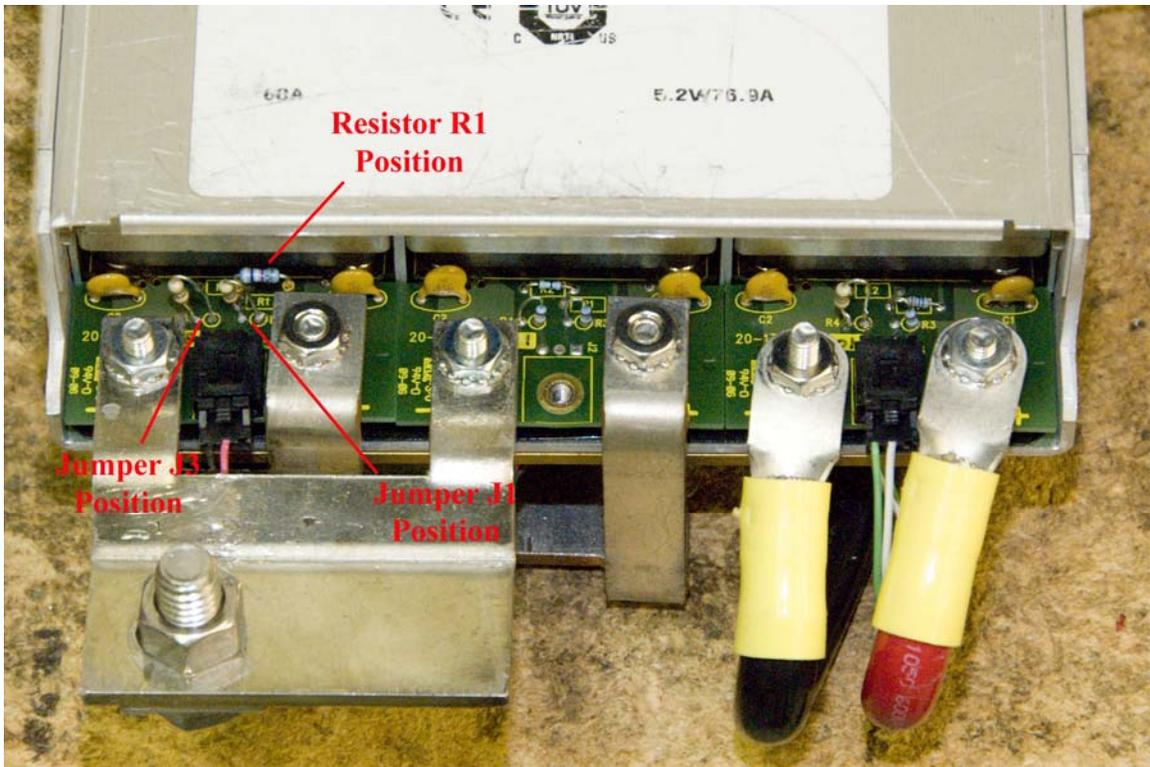
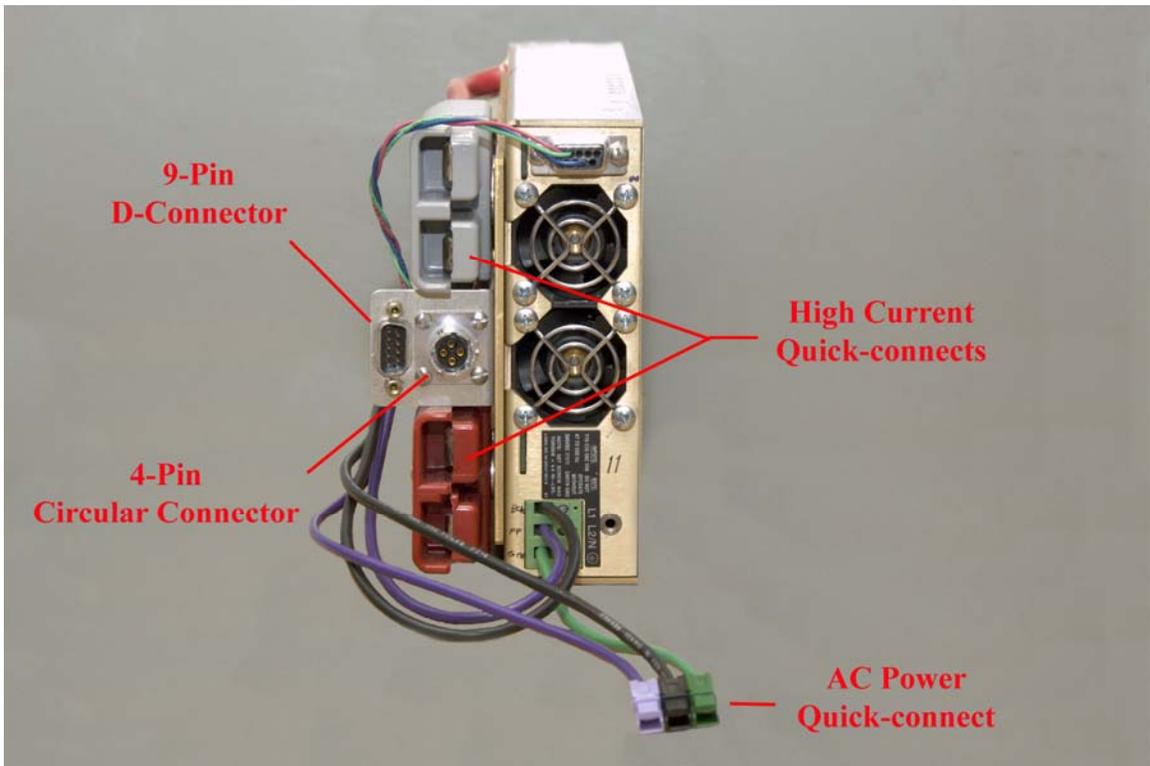

Figure 1. Location specific component locations on SMT Sequencer Power Supply Chassis.
Figure 2. Front of Sequencer Power Supply Chassis
The cables connecting the power supplies to Sequencer crates are rather long and not of consistent lengths. To compensate for variations in lengths, up to three resistors of specific values (dependent on the crate location) may need to be installed in the replacement power supply. Most often, this involves only one resistor, and it would be removed from the power supply being replaced. Be aware that this operation is likely to occur in the Platform Area of the D0 Detector just after the chassis is removed. The various resistor values are indicated in Table 1. The locations of these resistors are shown in Figure 1.
A matrix associating the values for components R1, J1 and J3 (important to match voltage trimming requirements) to specific Sequencer crate and Power Supply Chassis locations is shown in Table 1. Locations of these components on a Sequencer Power Supply Chassis are depicted in the image found in Figure 1. Connector locations on a Sequencer Power Supply Chassis are shown in Figure 2.
2. Bend resistor leads to obtain a tight U shape (see Figure 1 for example).